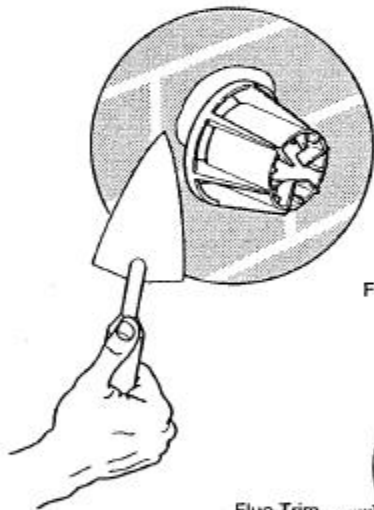

Fig. 29
3. Make good between the wall and the air duct outside the building if the internal fitting kit has not been used (Fig. 29).